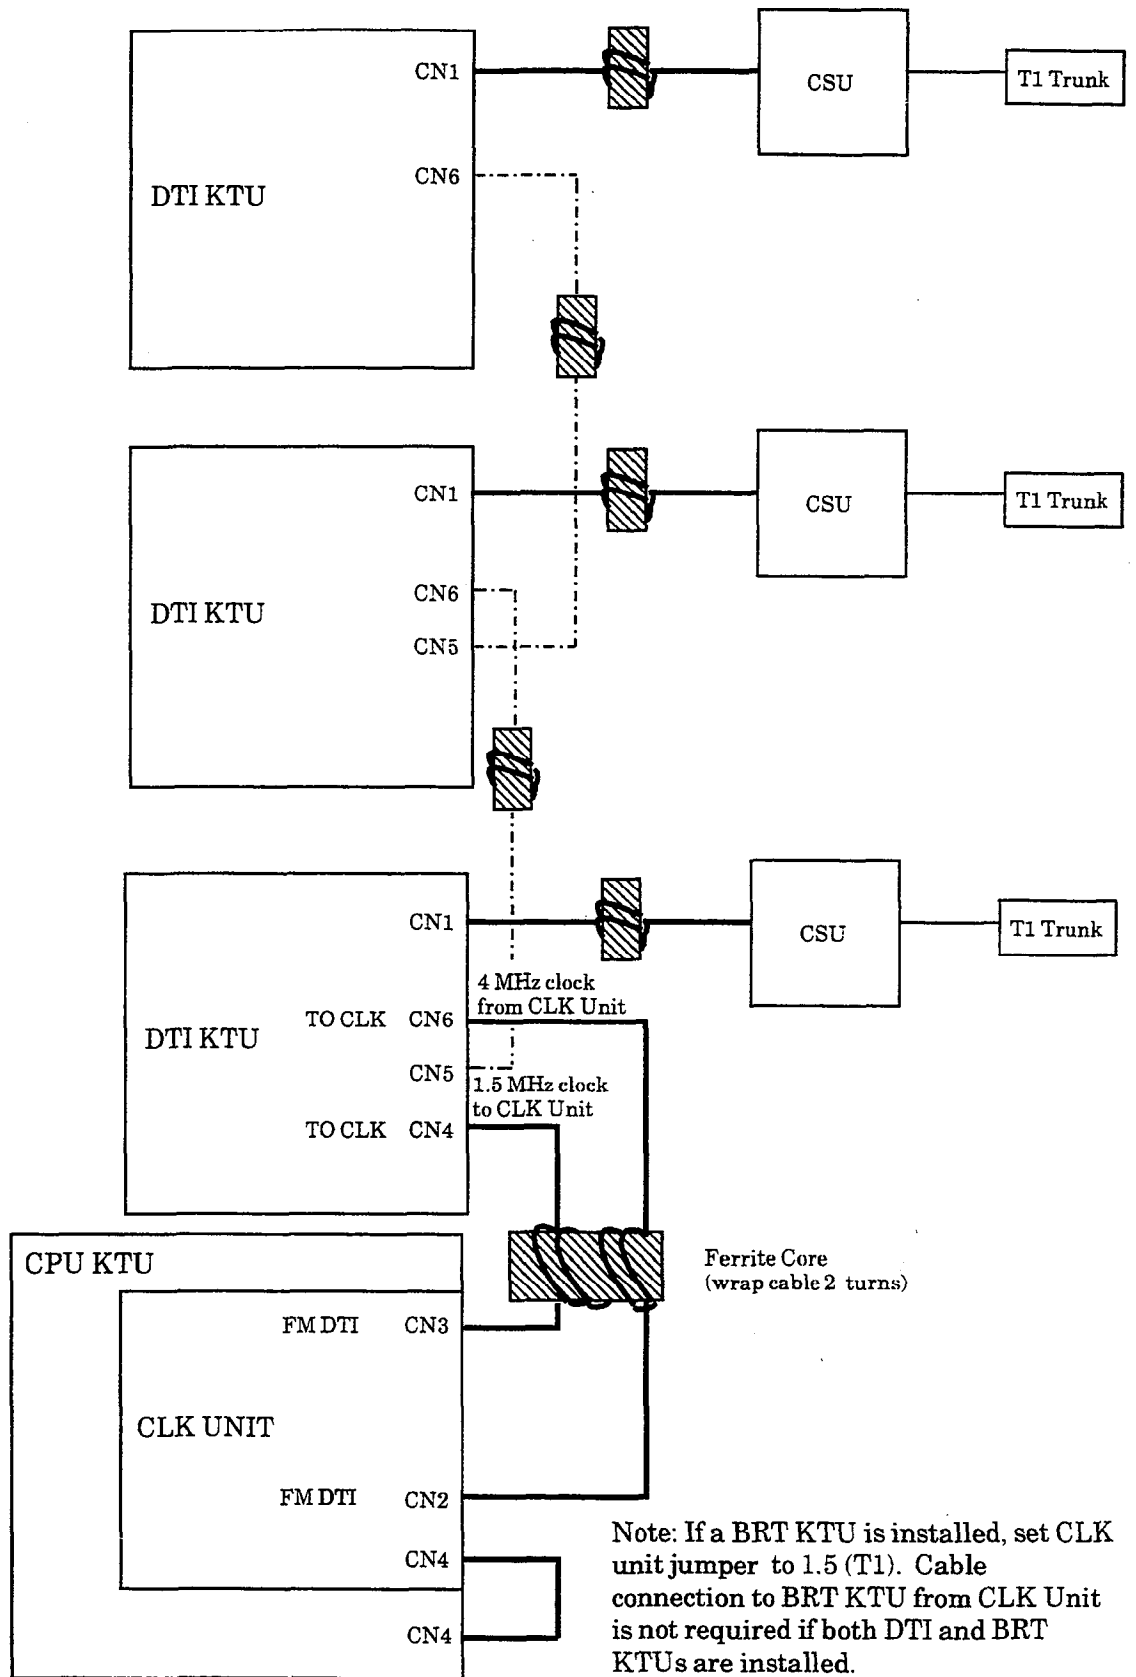
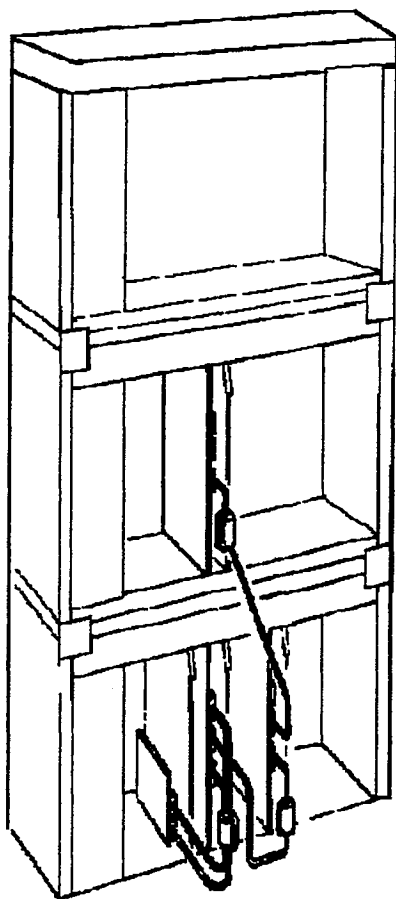

Figure 2-51 Connecting the Cable Between the DTI-F( )-10 KTUs or DTI-F(A)-20 KTUs and the CLK-F-21 Unit
Figure 2-52 Example of Three DTI-F( )-10 KTUs or DTI-F(A)-20 KTUs Attached to the CLK-F-21 Unit
- (1) Wrap the cables, provided with the DTI-F( )-10 KTU or DTI-F(A)-20 KTU, twice (two turns) around a ferrite core.
- (2) Connect CN6 and CN4, on the DTI-F( )-10 KTU or DTI-F(A)-20 KTU, to CN2 and CN3, on the CLK-F-21 Unit, using the provided cable with the DTI-F( )-10 KTU or DTI-F(A)-20 KTU. Refer to Figure 2-51 - Connecting the Cable Between the DTI-F( )-10 KTUs or DTI-F(A)-20 KTUs and the CLK-F-21 Unit.
- (3) When connecting a second DTI-F( )-10 KTU or DTI-F(A)-20 KTU, connect CN6 on the second DTI-F( )-10 KTU or DTI-F(A)-20 to CN5 on the first DTI-F( )-10 KTU or DTI-F(A)-20 KTU after wrapping this cable [provided with the DTI-F( )-10 KTU or DTI-F(A)-20 KTU] twice (two turns) around a ferrite core.
- (4) When installing a third DTI-F( )-10 KTU or DTI-F(A)-20 KTU, follow the same procedure in step 3 for connection between the third and second DTI-F( )-10 KTU or DTI-F(A)-20 KTU. Refer to Figure 2-52 - Example of Three DTI-F( )-10 KTUs or DTI-F(A)-20 KTUs Attached to the CLK-F-21 Unit.
In this configuration, the ElectraProfessional 120/Level II/Level II Advanced system derives clocking from the T1. Use connection scheme in Figure 2-51. CLK unit jumper is set to 1.5M. Cable connection is not required between the BRT KTU and the CLK unit or any DTI KTU.